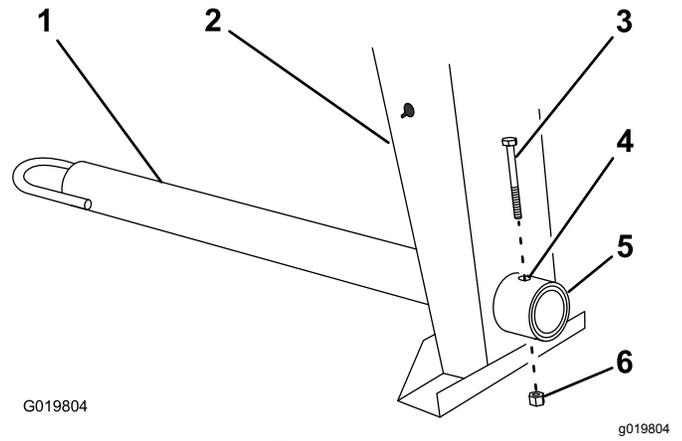

Figure 6
2. Slide the tow pole forward and align the hole in the pole with the hole in the frame fitting (Figure 6).
3. Insert the bolt through the holes in the fitting and the pole (Figure 6).
4. Thread the nut onto the bolt and tighten them until they are tight against the frame fitting (Figure 6).
1. Remove the bolt and nut from the tow pole (Figure 6).